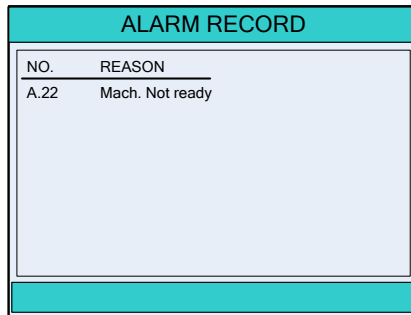

Figure 3-8 The **ALARM RECORD** page
- On the **CONST** page, press  to enter **ALARM RECORD** page, as shown in Figure 3-8.